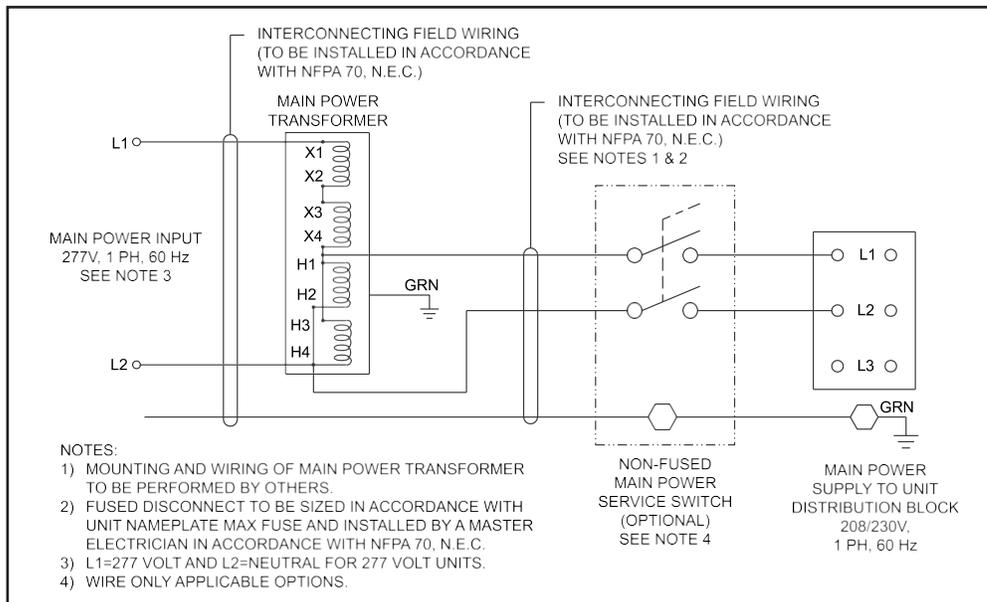

Figure 12. Transformer Schematic
2.7.1.3 Single-Phase Units (208/230V) with 277/230V Buck/Boost Transformer Applications (See Figure 12)